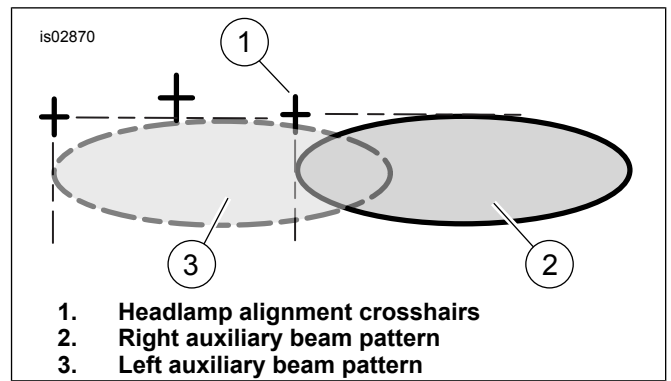

Figure 11. Auxiliary Lamp Beam Pattern
11. See Figure 11. Turn ON the auxiliary lamps, cover headlamp and left auxiliary lamp and by hand turn right auxiliary lamp until beam pattern (2) fits the right cross hair extensions.
12. Cover headlamp and right auxiliary lamp and by hand turn left auxiliary lamp until beam pattern (3) fits the left cross hair extensions.